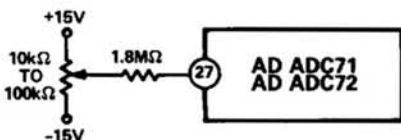

Figure 6. Offset Adjustment Circuit
The zero adjust circuit consists of a 100ppm/°C potentiometer connected across  $\pm V_S$  with its slider connected through a 1.8M $\Omega$  resistor to Comparator Input pin 27 for all ranges. As shown in Figure 6, the tolerance of this fixed resistor is not critical, and a carbon composition type is generally adequate. Using a carbon composition resistor having a -1200ppm/°C tempco contributes a worst-case offset tempco of  $32\text{LSB}_{14} \times 61\text{ppm/LSB}_{14} \times 1200\text{ppm/°C} = 2.3\text{ppm/°C}$  of FSR, if the OFFSET ADJ potentiometer is set at either end of its adjustment range. Since the maximum offset adjustment required is typically no more than  $\pm 16\text{LSB}_{14}$ , use of a carbon composition offset summing resistor typically contributes no more than 1ppm/°C of FSR offset tempco.
**Short Cycle Input:** A Short Cycle Input, pin 32, permits the timing cycle shown in Figure 8 to be terminated after any number of desired bits has been converted, permitting somewhat shorter conversion times in applications not requiring full 16-bit resolution. When 10-bit resolution is desired, pin 32 is connected to Bit 11 output pin 11. The conversion cycle then terminates and the STATUS flag resets after the Bit 10 decision ( $t_{10} + 40\text{ns}$  in timing diagram of Figure 6). Short cycle connections and associated maximum 8-, 10-, 12-, 13-, 14-, and 15-bit conversion times are summarized in Table I.